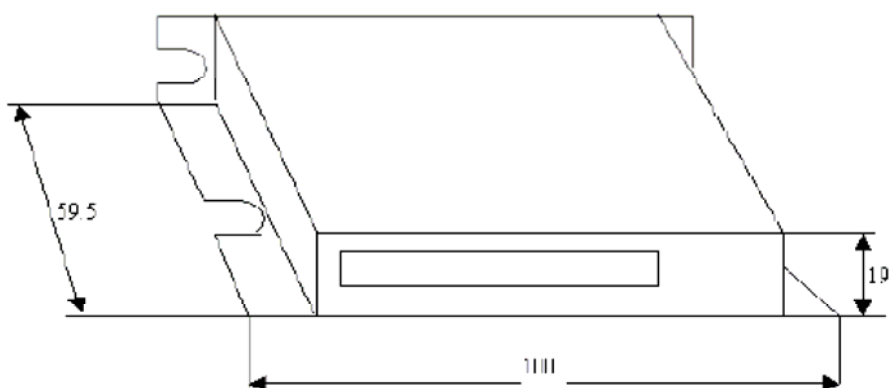

Figure 3
4. Figure Dimension as the Figure 3 below